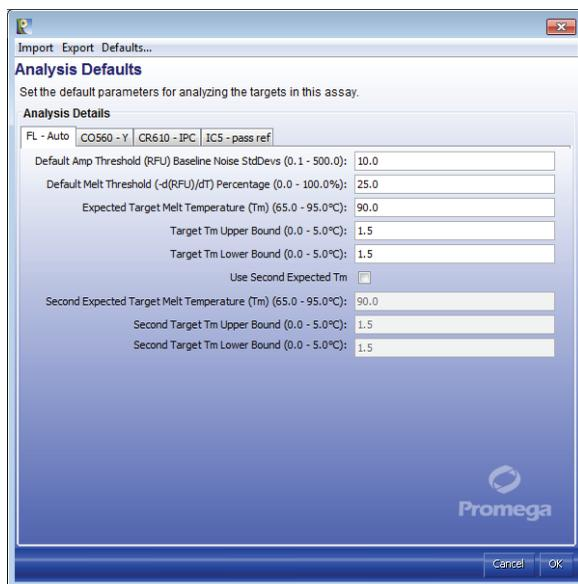

Figure 59. The Analysis Defaults tab.
2. Enter the desired values for the “Expected Target Melt Temperature (T_m)” for each dye used (Figure 59).